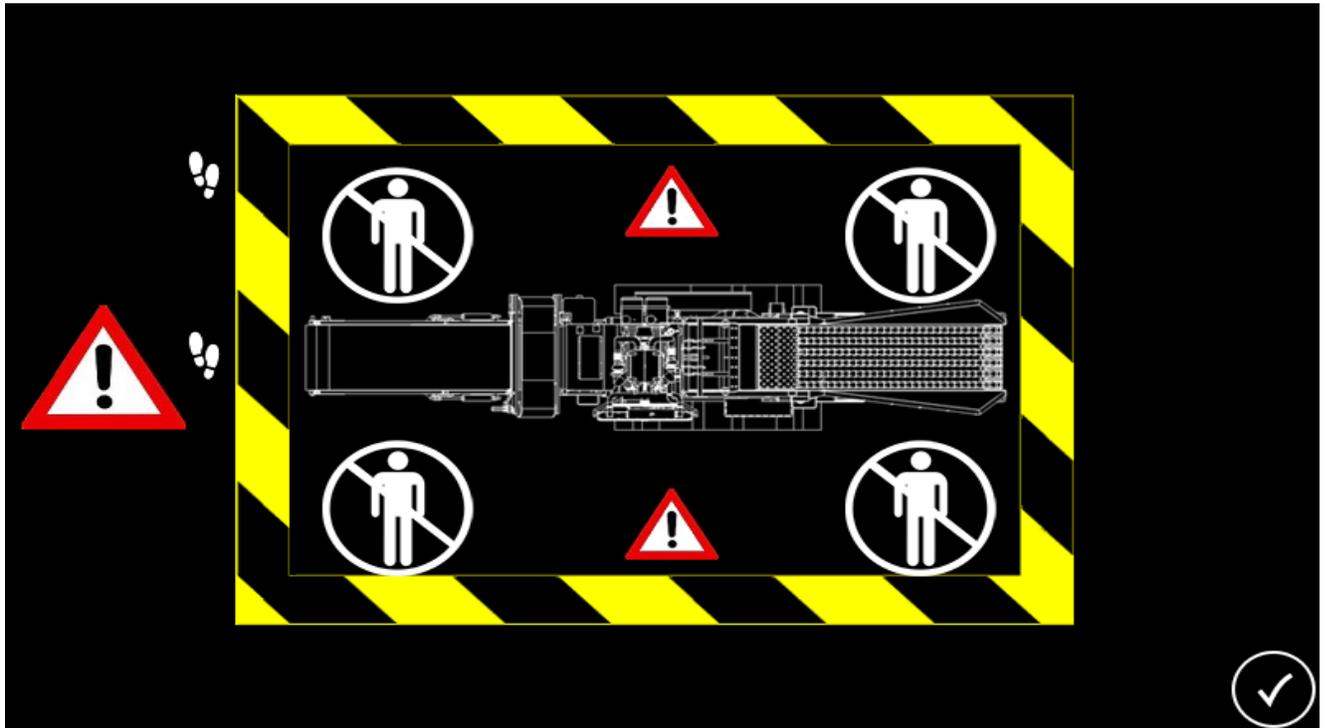

Figure 5.4 - Perform a Safety Check by Walking Around the Machine
5. Perform a safety check. Walk around the entire machine to ensure no personnel are in range of the machine (Figure 5.4). Press the check-mark in the bottom right corner to proceed once the safety check has been done.